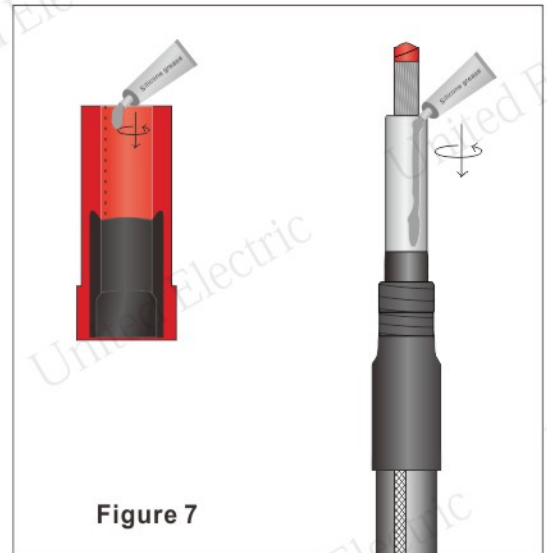

Figure 7
- Coat silicone grease onto the inner surface of the stress cone where mark with the broken line. (figure 7)